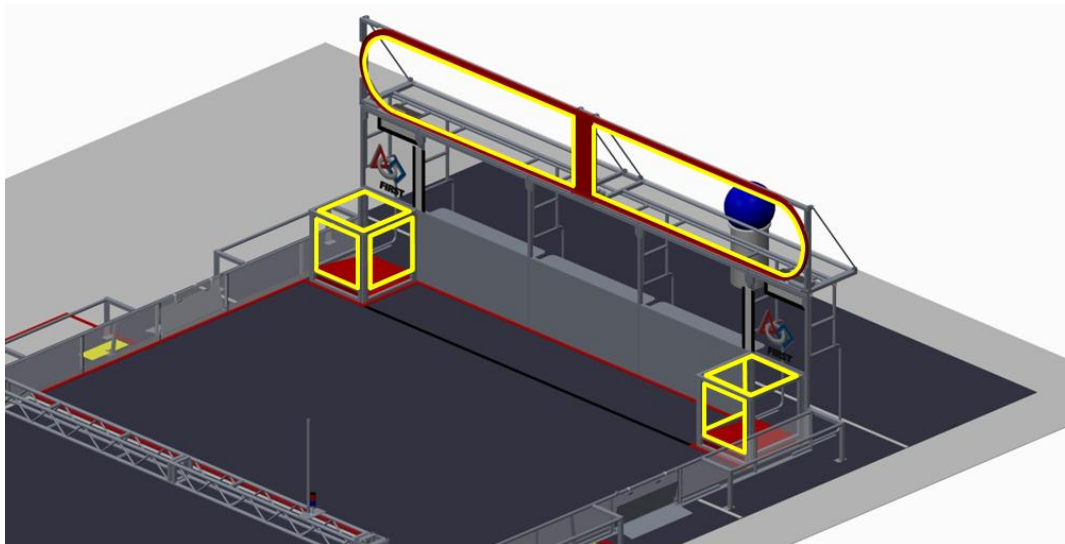

Figure 3-2: Red ALLIANCE'S six (6) LOW and two (2) HIGH GOAL Openings
The Red ALLIANCE'S eight (8) GOAL openings are outlined in yellow in Figure 3-2.